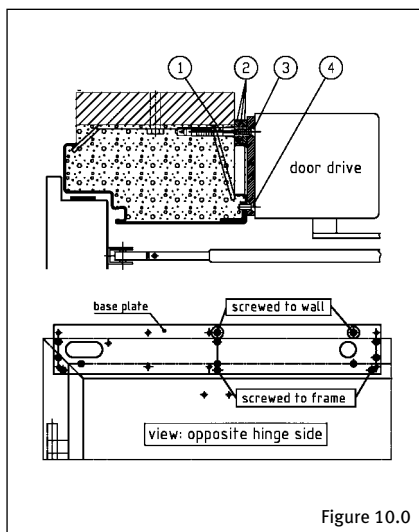

Figure 10.0
- 14.1 Fasten the baseplate onto the frame with countersunk screw (4) (Figure 10.0).